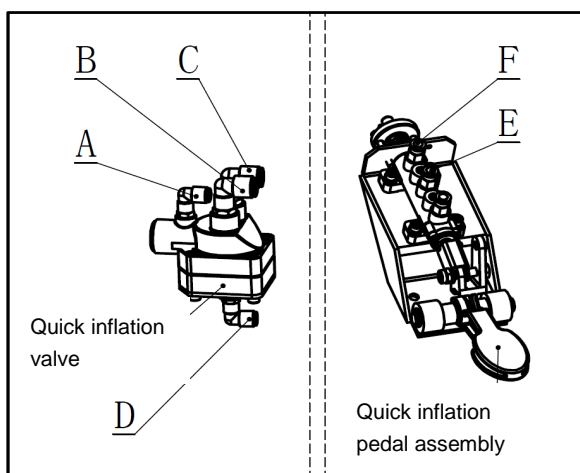

FIG7
- ✧ If the machine has the air tank, connect the holes FIG7-A to FIG6-2 and FIG7-D to FIG7-F and FIG7-E to FIG6-2. (The "hole" FIG6-2 is the TEE)